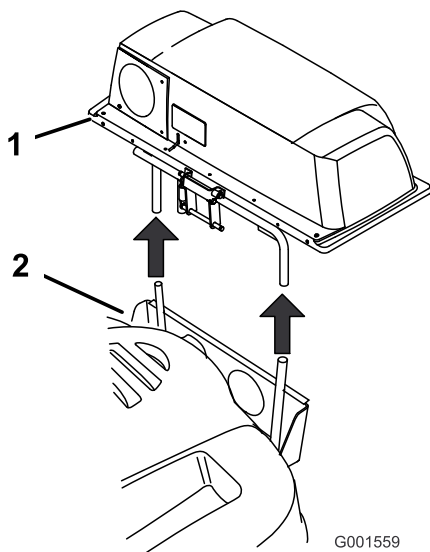

Figure 19
4. Carefully lift the bagger top and slide it off the quick attach bracket (Figure 19). The bagger top is easier to remove if two people work together.